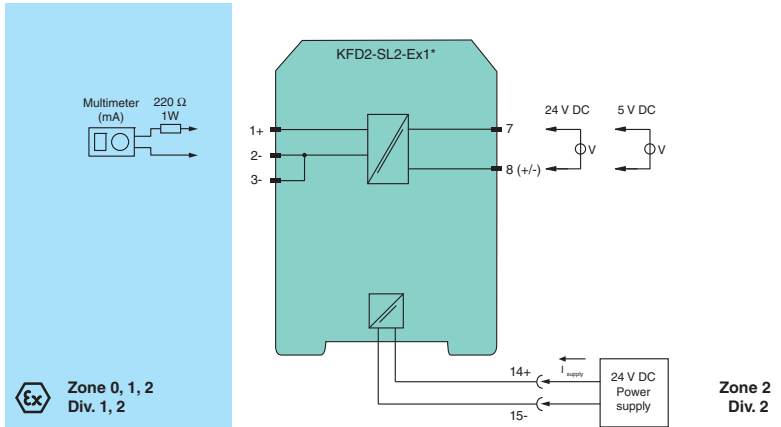
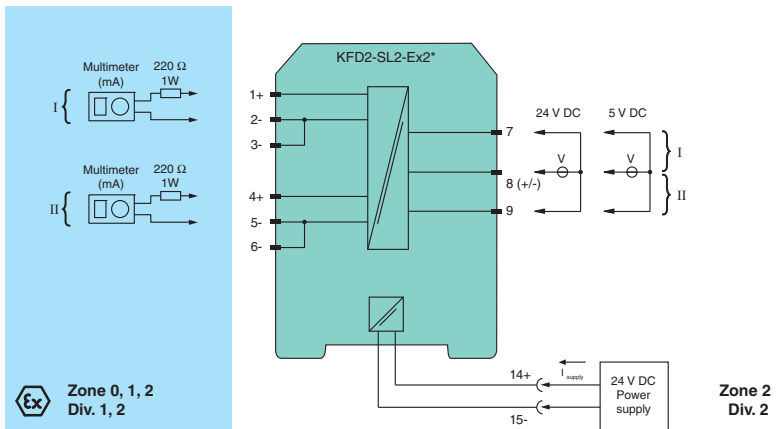

Figure 4.1: Proof test set-up for KFD2-SL2-Ex1*
Figure 4.2: Proof test set-up for KFD2-SL2-Ex2*
- Prepare a test set-up for testing the KFD2-SL2-(Ex)1* device (view Figure 4.1 on page 13), KFD2-SL2-(Ex)1* device (SIL3, loop powered) (view Figure 4.3 on page 14) or the KFD2-SL2-(Ex)2* device (view Figure 4.2 on page 13).